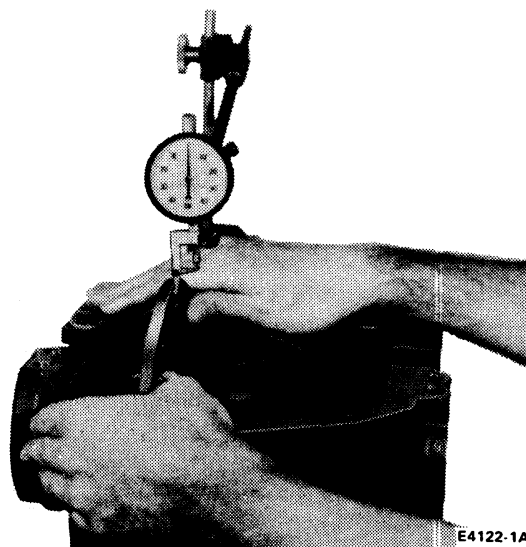

FIG. 28 Checking Backlash
4. Force the differential case away from the drive pinion gear, until it is completely seated against the cross bore face of the carrier. Position a dial indicator so the indicator tip rests on a differential case bolt as shown in Fig. 28. Zero the dial indicator.